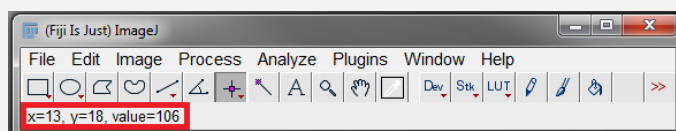

Figure 1.5: Pixel position and value.
2. Adjust the size to 150% with interpolation set to 'Bilinear'. Use the **Point-Tool** and move the mouse over the image. On the bottom of the Fiji bar, you should see the mouse position in pixels and the value of the current pixel (Figure 1.5).